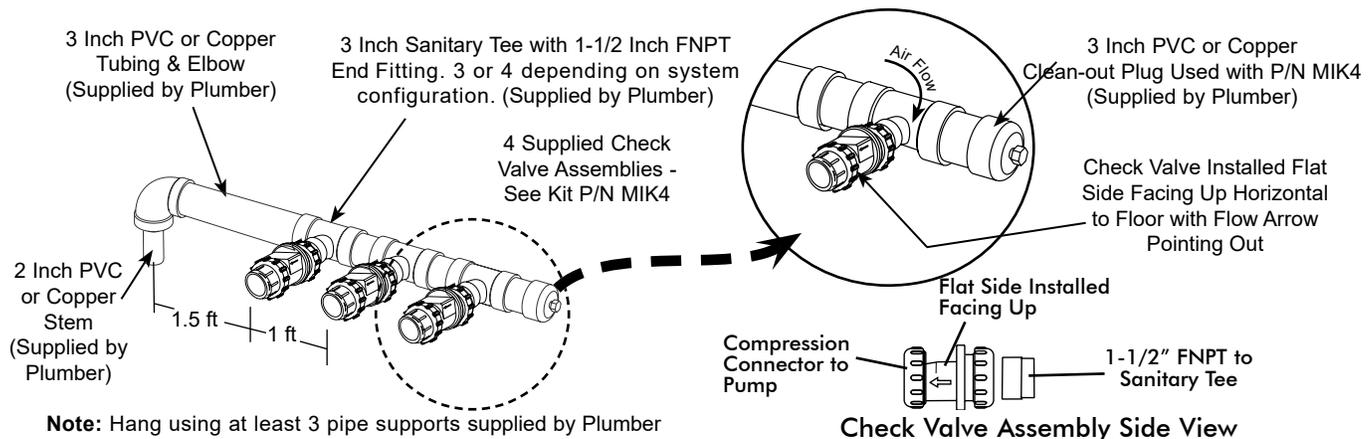

Figure 11. Pump/Tank Connection Manifold Fabrication
Installation Accessory Packs. Figure 11 shows the hose connections required for 3V5M and 4V5M **MOJAVE** system configuration installations using accessory packs that provide the required hoses, clamps and adapters as follows:
7. Using at least 3 pipe supports, hang the Pump/Tank Connection Manifold. See Figure 11.